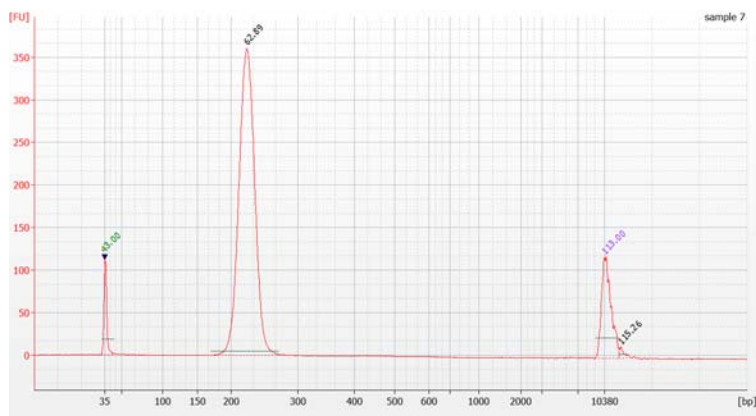

Figure 5 Analysis of size-selected, target enriched DNA using the Bioanalyzer High Sensitivity DNA Assay.
- 5 Verify that the electropherogram shows a peak of DNA fragment size at approximately 220 bp. A sample electropherogram is shown in Figure 5.